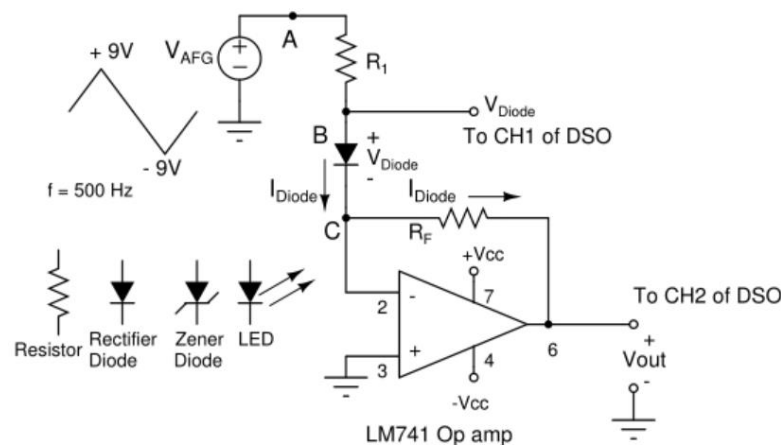

Fig. 4 LM741 Op amp based current-to-voltage converter for obtaining the V-I characteristics of diodes
Circuit diagram to be used for the plotting the V-I characteristics of diodes is shown in Fig.4. Following are the major blocks of the circuit.
In Fig.4, resistance  $R_1$  is used as a current-limiting resistor. We shall choose  $R_1 = 1$  k $\Omega$  to limit the maximum current to roughly 8 mA. Almost the entire diode current ( $I_{Diode}$ ) will flow from the V- terminal through  $R_F$  to the  $V_{out}$  terminal of the Op amp. Hence,  $V_{out} = -I_{Diode} \cdot R_F$ . We shall choose  $R_F = 1$  k $\Omega$ . Thus, a diode current of 1 mA will make  $V_{out} = -1$  V.
- Wire the current-to-voltage converter circuit shown in Fig.4.
Note: With reference to Fig.4,  $I_{\text{Diode}} = I_{\text{Res}}$ ;  $V_{\text{Diode}} = V_{\text{Res}}$ .